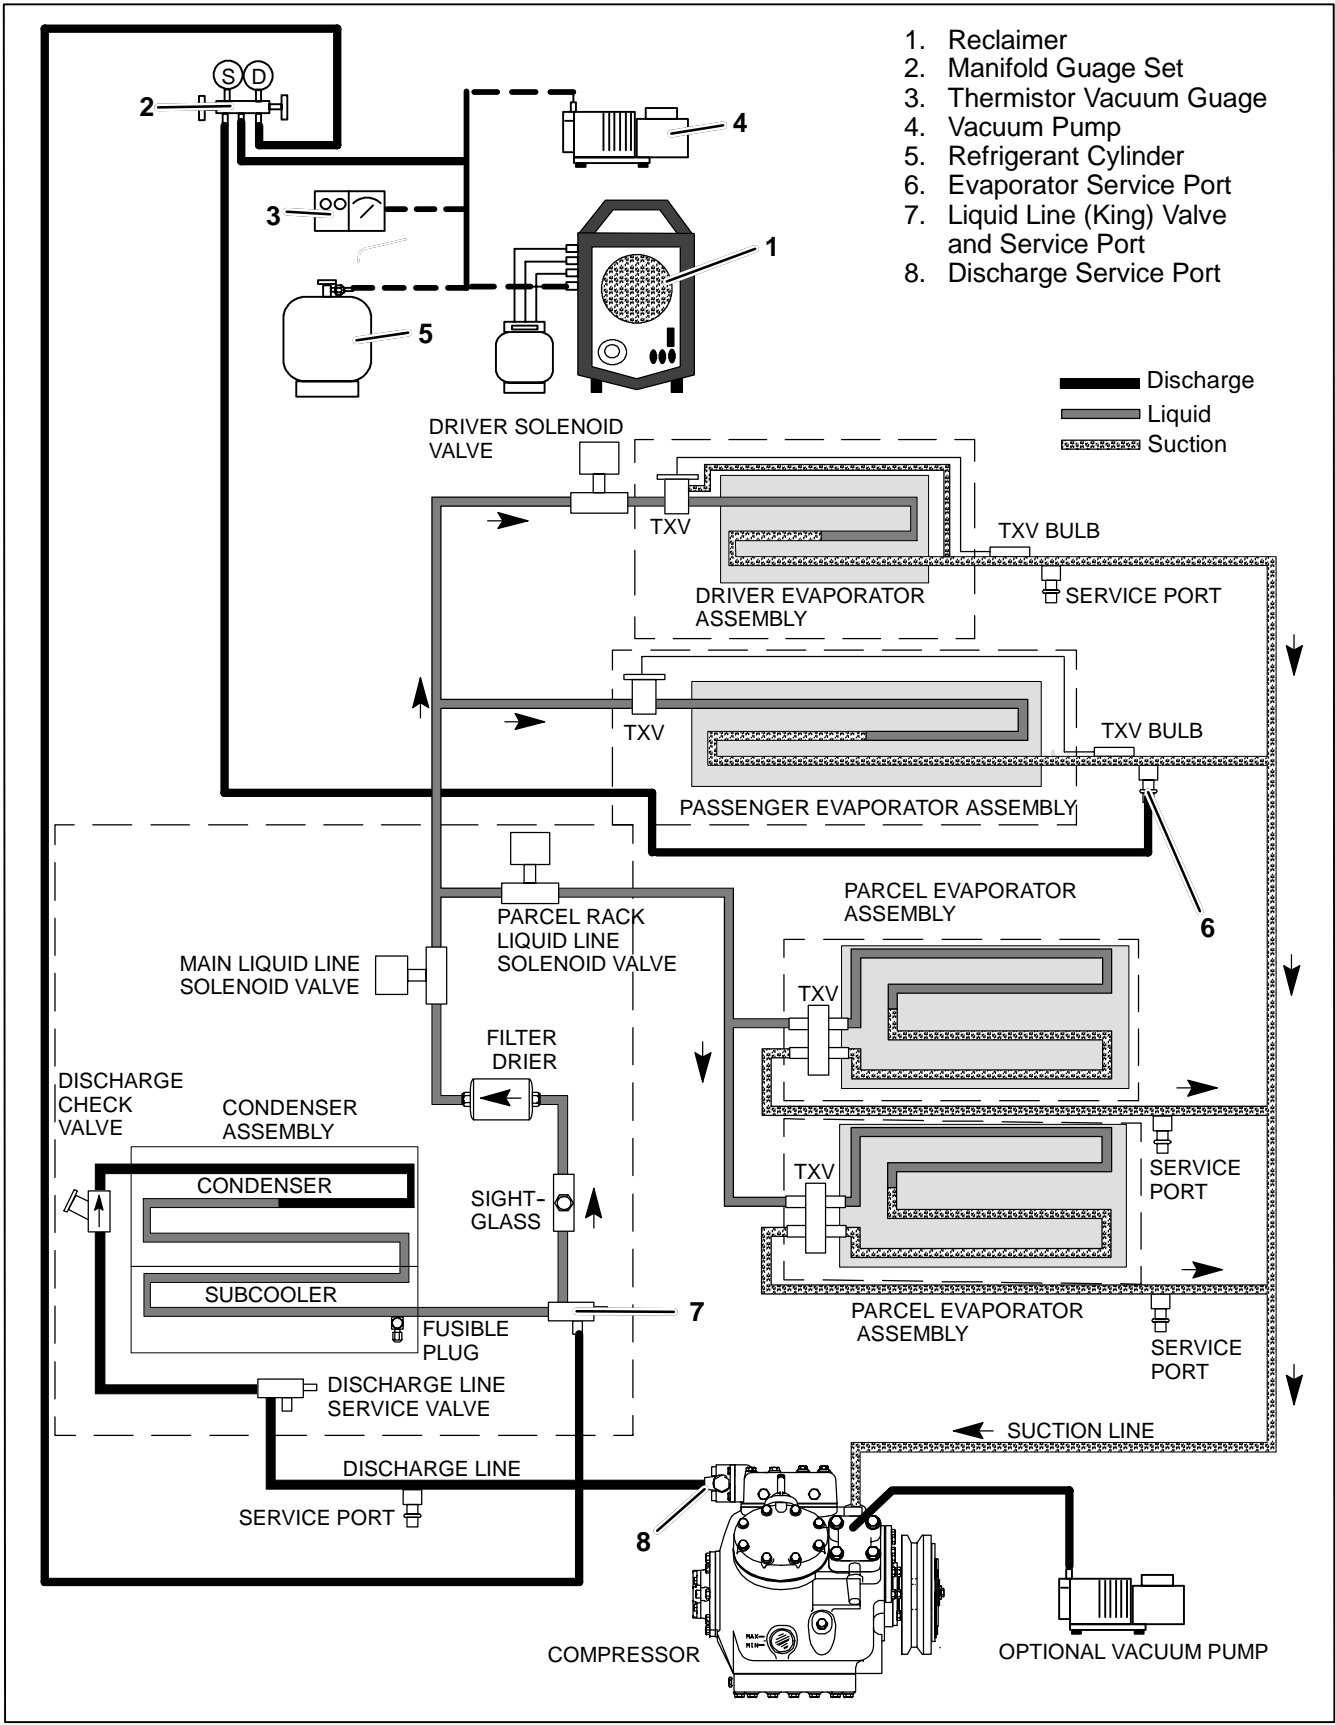

Figure 4-4. Refrigerant Service Connections
Connect a refrigerant recovery system to the unit at the condenser service (King) valve to remove refrigerant charge. (See Figure 4-4) Refer to instructions provided by the manufacturer of the refrigerant recovery system.
- b. The recommended method is connecting two lines (3/8" OD copper tubing or refrigerant hoses designed for vacuum service) to the manifold gauge set. Attach one line to the condenser service (King) valve and the other line to the evaporator service port. (See Figure 4-4)
- d. To speed up evacuation time, open solenoid valves electrically. An additional vacuum pump may be added and connected to the compressor suction service port. (See Figure 4-4)
- Connect an accurate high pressure gauge to the discharge service port at the compressor. (See Figure 4-4)
- c. Drier can be evacuated at liquid line service valve. (See Figure 4-4)